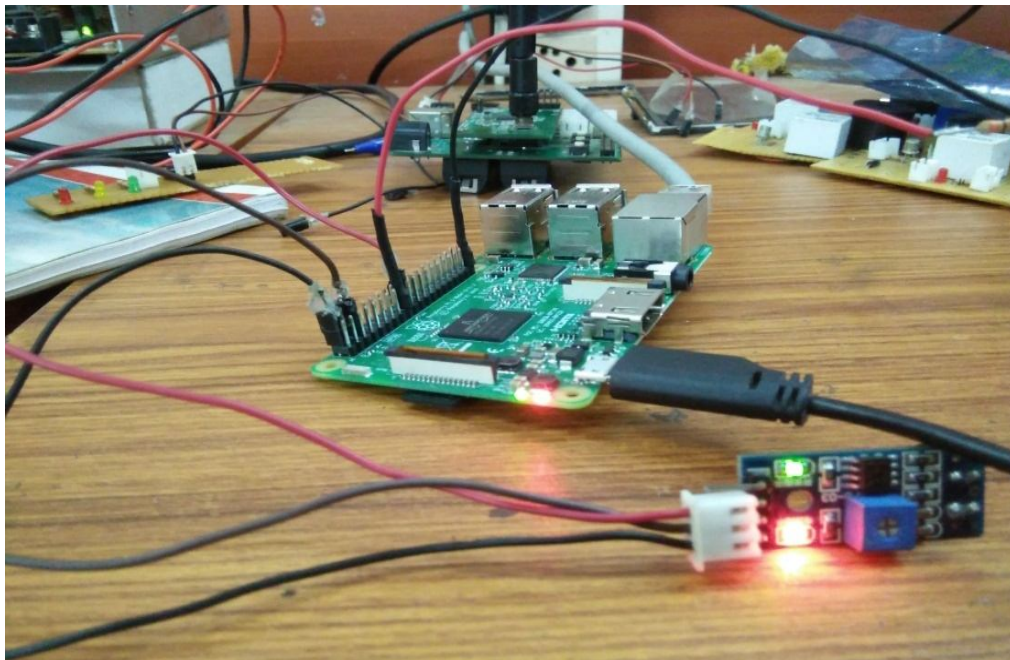

Fig.3
- The circuit connection must be like as fig. 3